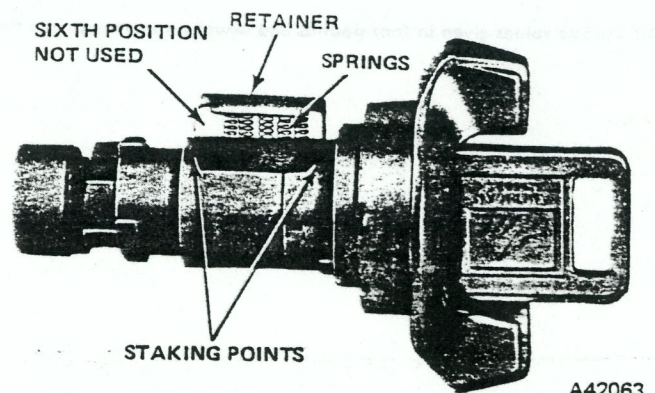

Fig. 2J-69 Tumbler and Spring Installation
- (2) Install wave washer and anti-theft ring on lock cylinder (fig. 2J-70).